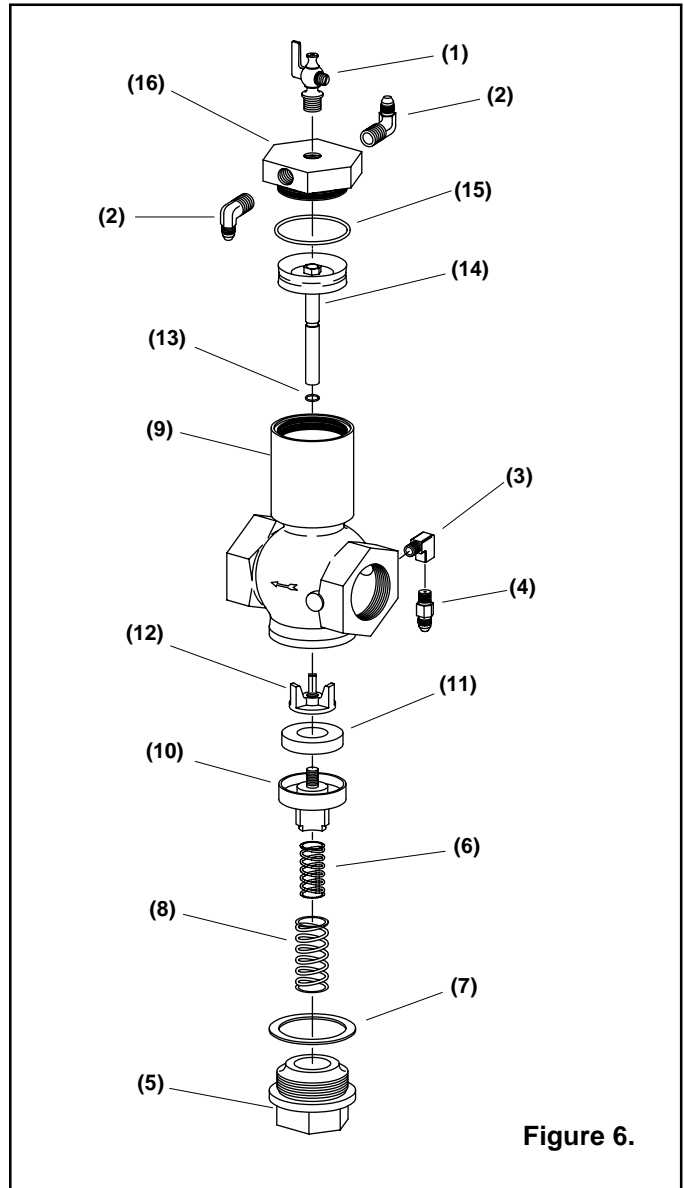
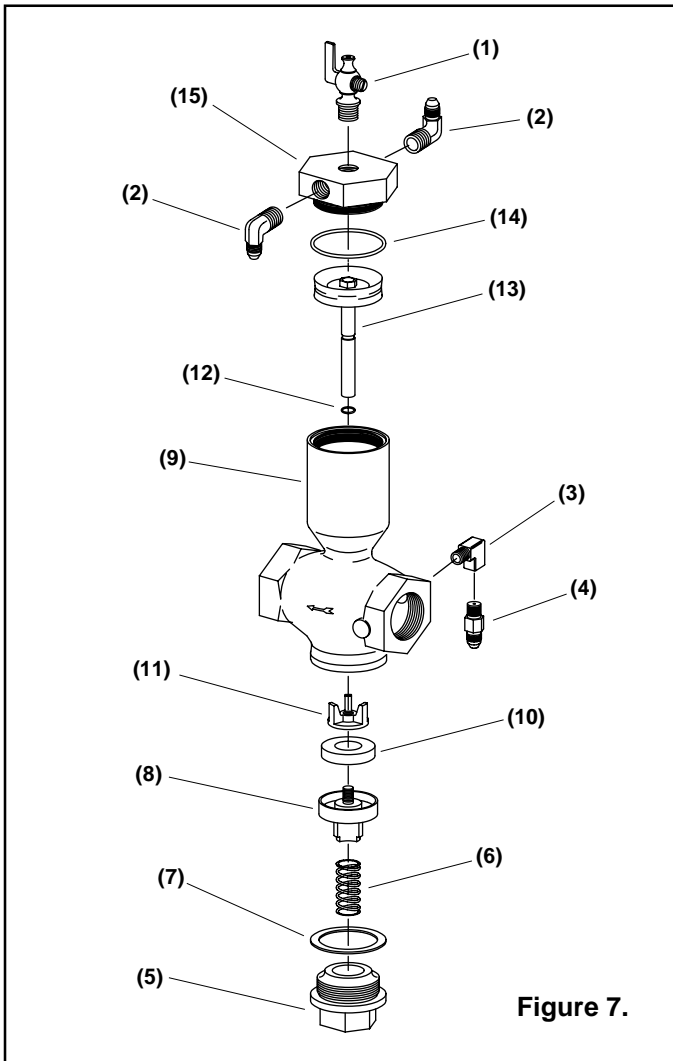

Figure 6.
Figure 7.
**6.1.4** Check for air escaping from the opening under the control handle. If no air is escaping, the orifice on the inlet valve (Figure 6 item 4, or Figure 7 item 4) or the line from the orifice to the control handle is blocked and must be cleared.
**6.2.2** Check to make sure that the lower fitting on inlet valve (Figure 6 item 4 or Figure 7 item 4) has not been switched for a fitting with a full flow orifice. The orifice on the 1/8" npt end of the fitting must be 1/16" diameter.
**7.4 1-1/2" Inlet Valve, Figure 6**
7.5 1" Inlet Valve, Figure 7